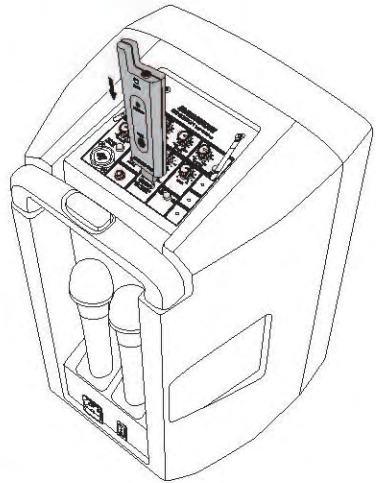

Figure 1
1. Plug the RXD2 USB receiver into one of the USB jacks on rear panel of the XP310w directly (figure 1) or using the included USB extension cable (figure 2).